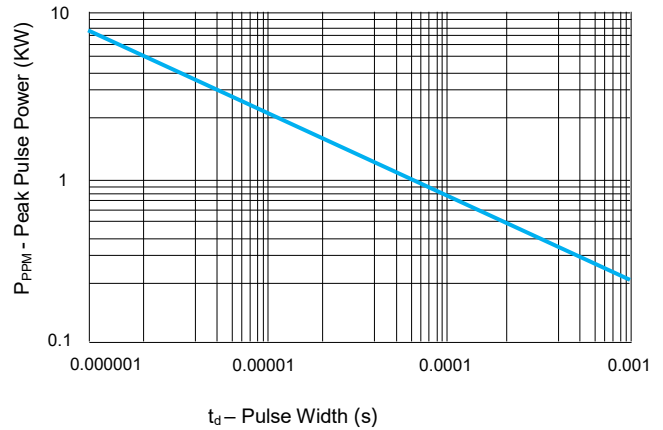

FIGURE 2 Peak Pulse Power Rating Curve
2. Surge current waveform per 10/1000  $\mu$ s exponential wave and derated per Fig.2.